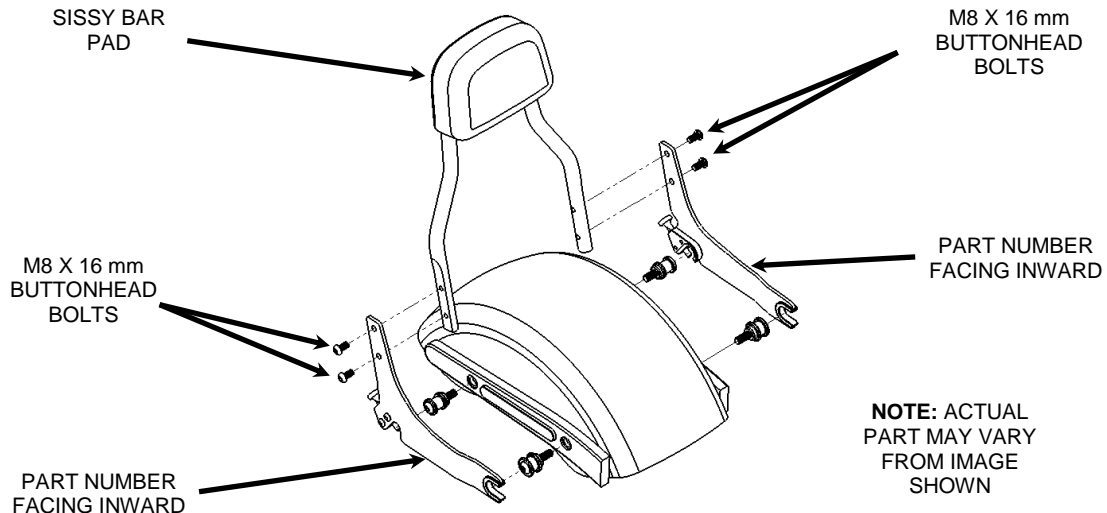

FIGURE 3
5. Install the supplied side plates on to the sissy bar with the four M8 X 16 mm button head bolts. Make sure the u-shaped grommets are facing the same direction as the sissy bar pad and the part numbers are facing inward. See **FIGURE 3**. Snug the bolts but **DO NOT TIGHTEN** at this time.